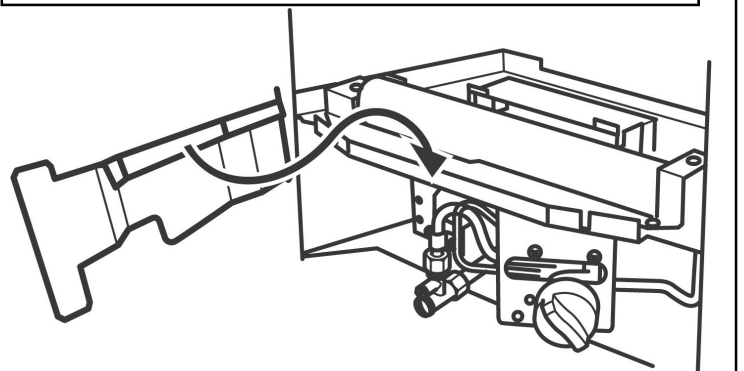

Figure 27.. Fitting the burner baffle
4. Fit the burner baffle to the front flanges of the burner. To do this, place the baffle against the front flanges of the burner and lower into position. The return edges on the rear of the baffle should slot over the front flanges of the burner (See figure 27).
2. Fit the burner baffle to the front flanges of the burner. To do this, place the baffle against the front flanges of the burner and lower into position. The return edges on the rear of the baffle should slot over the front flanges of the burner (See figure 27).
5. **Camden only** - Fit the burner baffle to the front flanges of the burner. To do this, place the baffle against the front flanges of the burner and lower into position. The return edges on the rear of the baffle should slot over the front flanges of the burner (See figure 27).